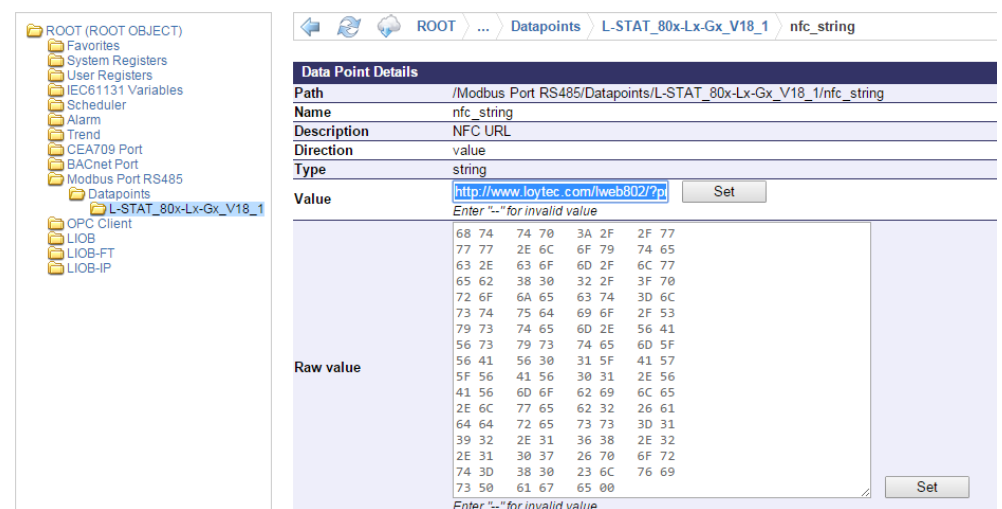

Figure 10: L-STAT NFC String
5. Open the `nfc_string` datapoint in the web interface of your device and paste the L-WEB project URL at the **Value** field as shown in Figure 10.